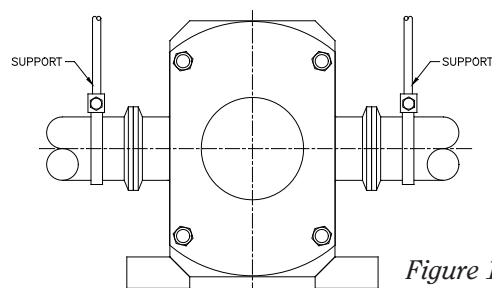

Figure 1
- Support all piping independently to minimize the forces exerted on the pump (*Figure 1*).